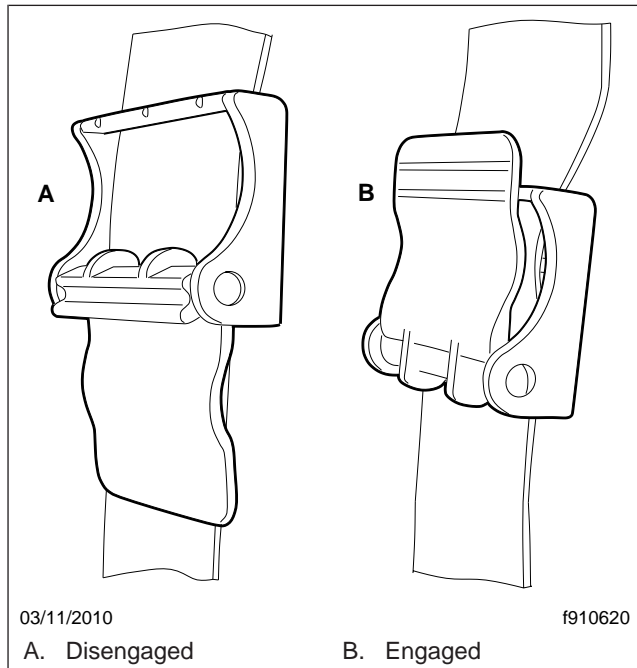
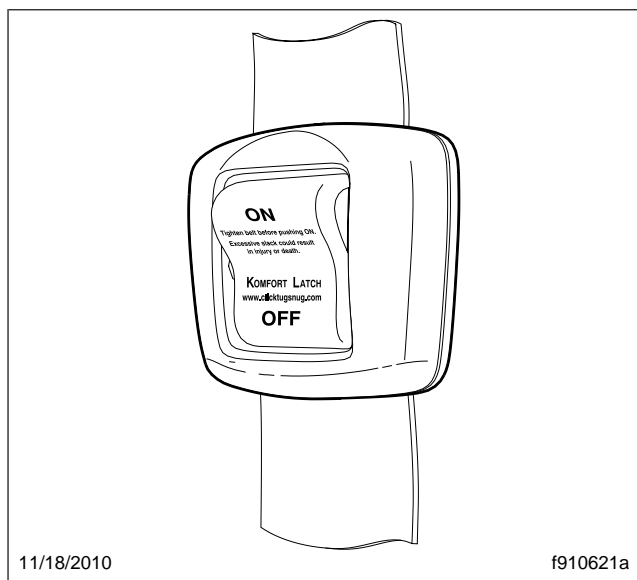

Fig. 5.16, Komfort Latch
Fig. 5.17, Sliding Komfort Latch
When engaged and used properly, the Komfort Latch (Fig. 5.16) and the Sliding Komfort Latch (Fig. 5.17)
*If equipped with a Sliding Komfort Latch, make sure that the shoulder strap is snug against your chest. Without loosening the shoulder strap, push the Sliding Komfort Latch switch to the "ON" position. See **Fig. 5.17**. To activate the latch lean forward until you hear a click. This will allow for approximately 1 inch (2.5 cm) of slack between your chest and the shoulder harness. Once engaged, the latch will allow you to lean forward about 5 inches (13 cm) without having to reset the latch. Leaning forward more than 5 inches (13 cm) will disengage the Sliding Komfort Latch, requiring it to be reset.*